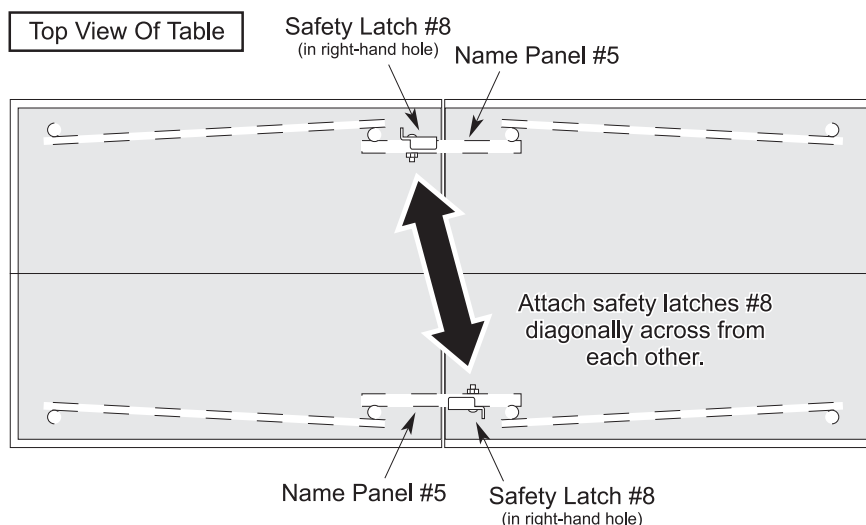

Figure 9
25. Go to the other side of the table and install the second safety latch into the right-hand hole on the other name panel #5. **NOTE: Safety latches must be attached diagonally across from each other.** See Figure 9.